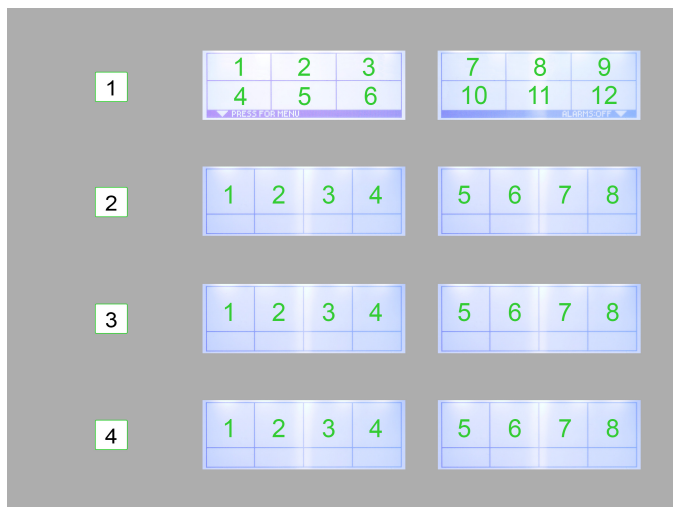

Figure 16
The *POSITION* variable corresponds with position locations on the Home or layer screens. The (1) Home screen is divided into 12 position locations. The (2) Layer 1, (3) Layer 2, and (4) Layer 3 screens are each divided into 8 position locations. (See Figure 16)